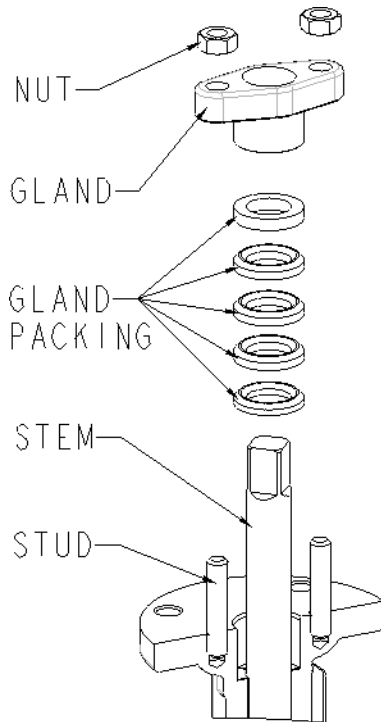

Fig.11
- 11.2 Remove all of the packing in the stuffing box using a flexible screw hook. For stuffing boxes that contain a lantern ring, use a puller with 10-32 threads to remove the lantern ring. Save the lantern ring for reuse, but discard the other packing material. Please replace all the gland packing no matter the gland packing is made of PTFE. (Fig.11)